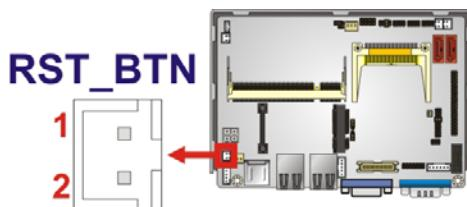

Figure 3-14: Reset Button Connector Location
**CN Label:** RST\_BTN**CN Type:** 2-pin wafer, p=2.0 mm**CN Location:** See **Figure 3-14****CN Pinouts:** See **Table 3-15**